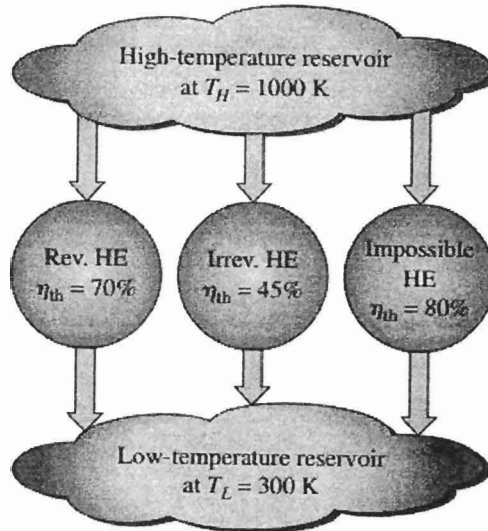

Figure Q3a
- a) *Figure Q3a* shows three heat engines operating between the same high-temperature reservoir at a constant temperature of 1000 K and low-temperature reservoir at a constant temperature of 300 K. Write clearly three (3) statements that can be deduced from this figure, with regards to the *thermal efficiency* of the engines.